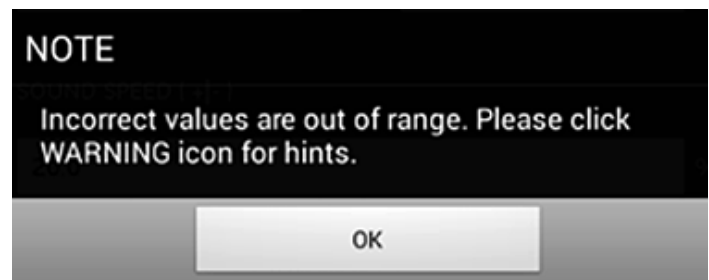

Figure 133: Out of limits message
7. There is an acceptable range for each of the parameters entered in this menu. If you enter a value outside of these limits a message similar to Figure 133 below is displayed.